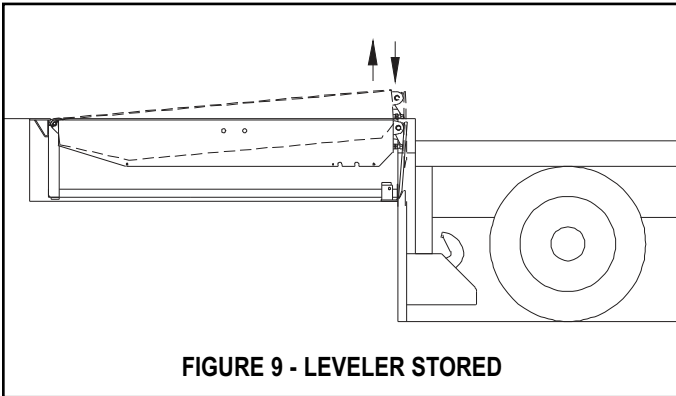

FIGURE 9 - LEVELER STORED
2. Release RAISE button. Leveler will lower to dock level with lip resting in the lip supports. See figure 9.